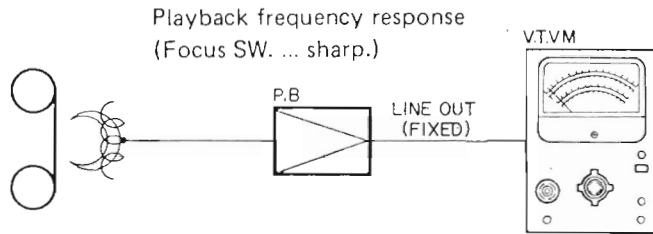

Fig 2
- 1) Connect as shown in Fig. 2.